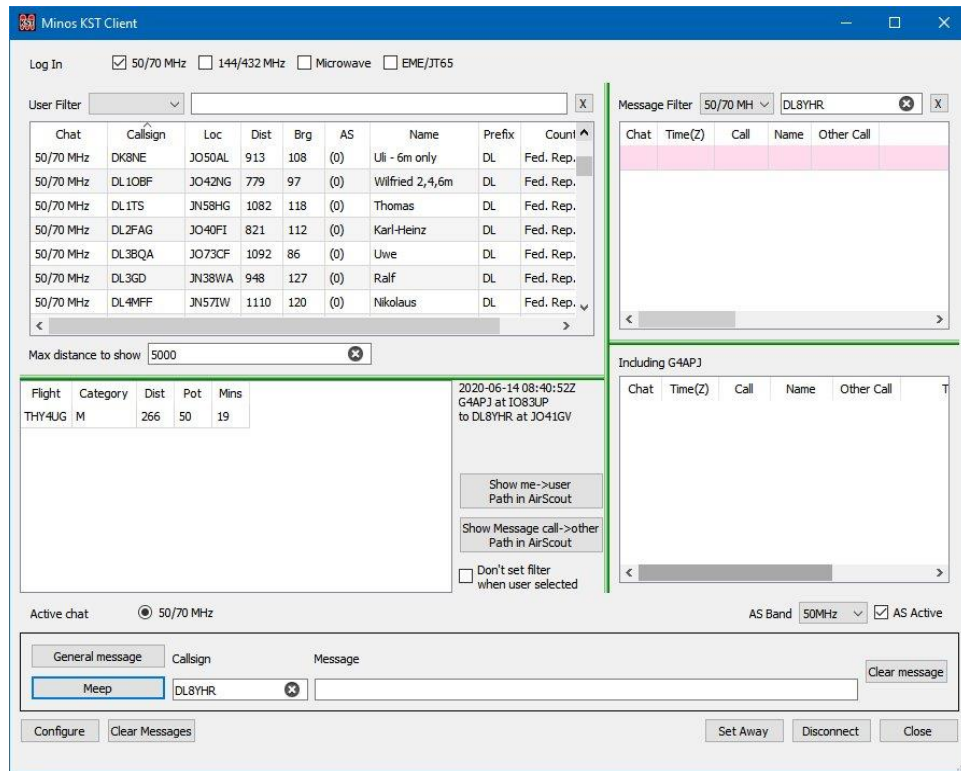

Figure 157 – Airscout operational in KST Client
Once the connection is established141 additional information (AS) is displayed in the User panel (on the left), and a new panel appears bottom left (Figure 157).